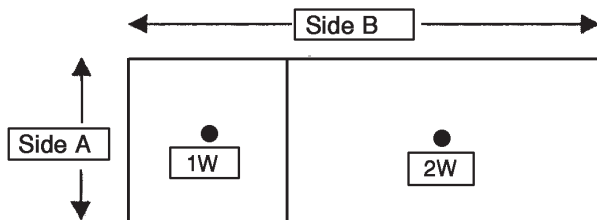

FIGURE 4-2
- Follow design table in Figure 4-2 to determine maximum module size for each nozzle